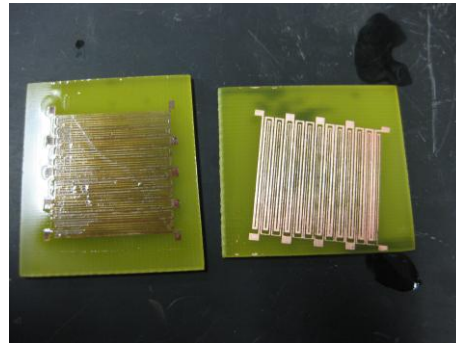

Figure 5 After Etch (left-before strip, right-after strip)
- e. Immediately rinse the substrates in water. Inspect the copper pattern. If the copper around the pattern is still visible, put the substrates in the etchant for an additional 10 seconds, followed by an immediate rinse in water. Continue etching in 10 second intervals until the copper around the circuit pattern is gone, revealing the plastic underneath. Be careful not to over etch, the copper underneath the photoresist covered pattern should not get etched away (see figure 5, left image).
- d. The copper pattern should appear shiny and metallic (figure 5, right image). If not, repeat the photoresist stripping until all of the photoresist is removed. Dry the board.